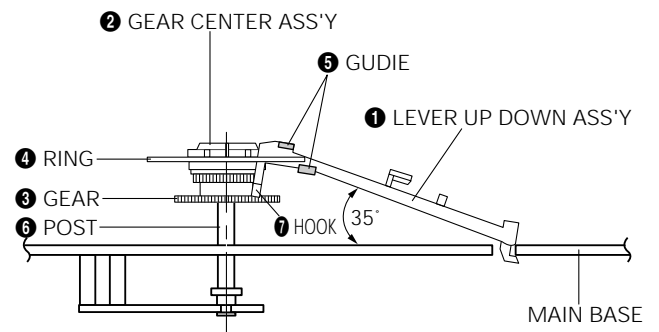

Fig. 1-21 Assembly of Lever Up Down Ass'y, Gear Center Ass'y
- 1) Insert the Lever Up Down Ass'y ① in the 2 rectangular holes on Main Base.
- 2) Lift the Lever Up Down Ass'y ① about 35 degree. (Refer to Fig. 1-21)
- 3) Insert Ring ④ of the Gear Center Ass'y ② in the Guide ⑤ of the Lever Up Down Ass'y ①.
- 4) Insert the Gear Center Ass'y ② in the post ⑥ on Main Base.
- 5) Push down the Lever Up Down Ass'y ① for locking of the Hook ⑦.